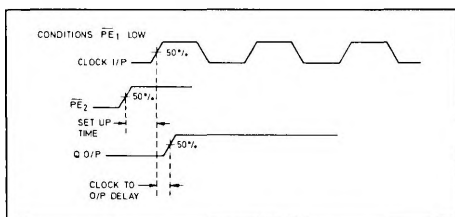

Fig. 3 Set-up timing diagram
- Set-up time is defined as the minimum time that can elapse between a L→H transition of a control input and the next L→H clock pulse transition to ensure that the ÷8 mode is forced by that clock pulse (see Fig. 3).